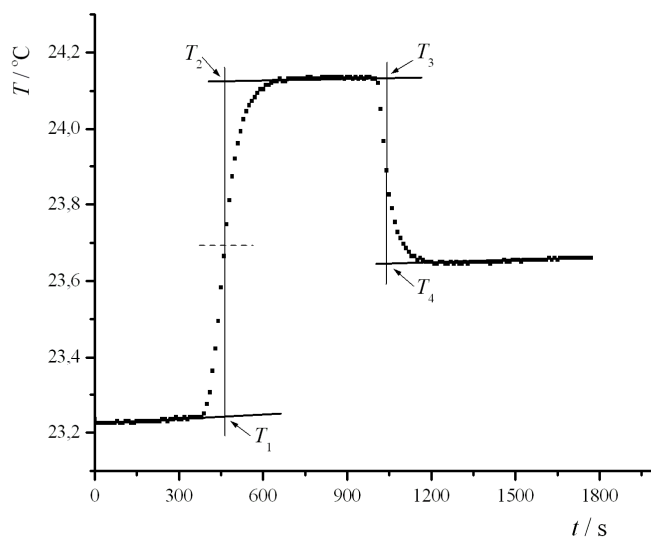

Figure 2. Tracking the temperature of calorimeter in time.
A precisely measurable amount of heat can be generated by electric heater, this heat causes also a temperature difference. The heat capacity of calorimeter can be calculated from that temperature difference. From the thermally insulated vessel only a very small amount of heat can leak, therefore the temperature difference measured is proportional to the heat capacity of calorimeter. The small heat loss can be corrected by graphical method from the temperature vs. time function (see Figure 2.) taken
is strictly the difference between the final and initial temperature taken from T vs. t graph (see Figure 2.). This temperature difference will decide the sign of reaction enthalpy.
1. Plot two T vs. t functions like Figure 2. on mm-paper. One for anhydrous sodium acetate and another one for sodium acetate trihydrate. From the three approximately horizontal sections of the graph determine T_1, T_2, T_3, T_4 . In most of the cases T_2 , and T_3 will be identical. Calculate the adequate ΔT_1 and ΔT_2 values.